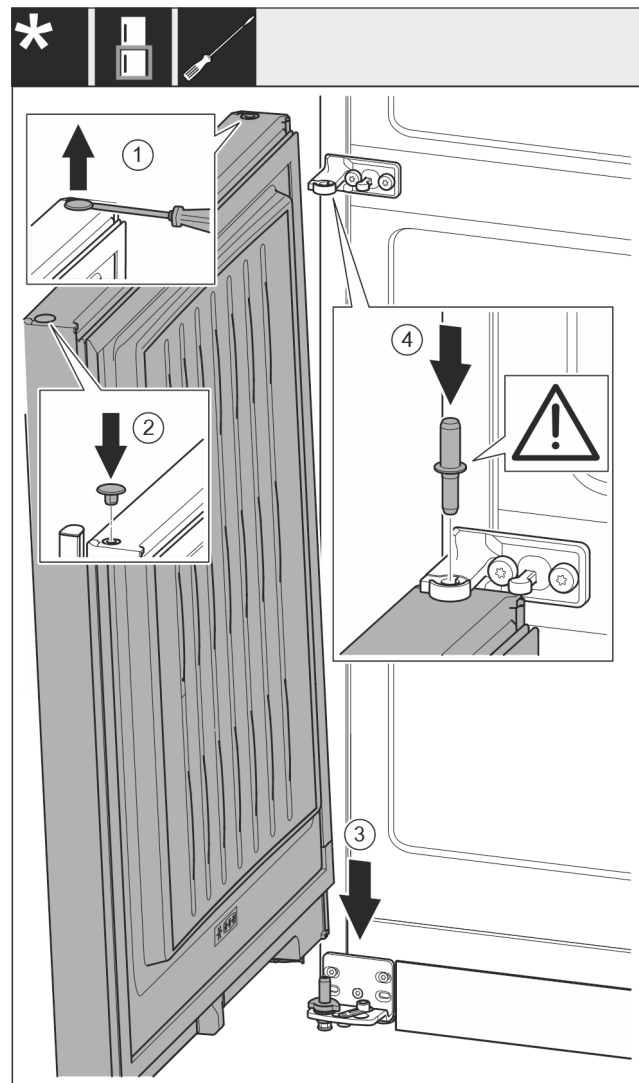

Fig. 20
- ▶ Carefully lift up the plugs with a slotted screwdriver and pull them out. Fig. 20 (1)
- ▶ Insert the plugs again on the other side of the door. Fig. 20 (2)
- ▶ Position the door from above onto the lower bearing pins. Fig. 20 (3)
- ▶ Insert the center bearing pin through the center bearing bracket into the bottom door. Make sure that the latching lug is pointing to the rear. Fig. 20 (4)